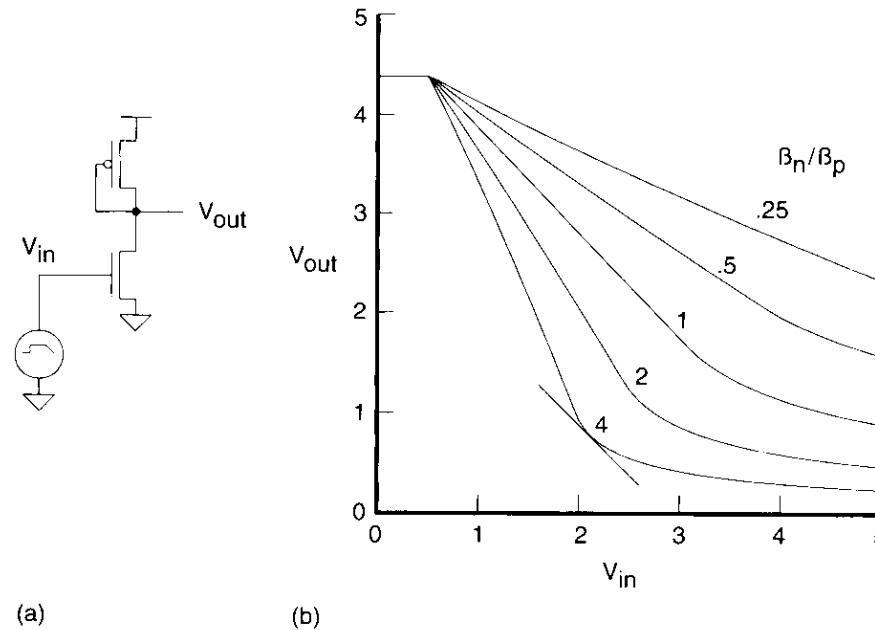

FIGURE 2.24 Saturated load inverter
- Figure 2.24(a) shows another “pseudo-nMOS” inverter that has a p-device load with its gate connected to the output.